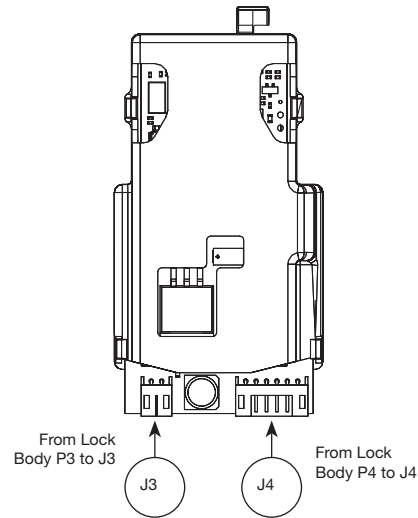

Fig. 9A
1. Connect P3 (2-pin connector) from lock body to J3 on module (Fig. 9A).
2. Connect P4 (6-pin connector) from lock body to J4 on module (Fig. 9A).